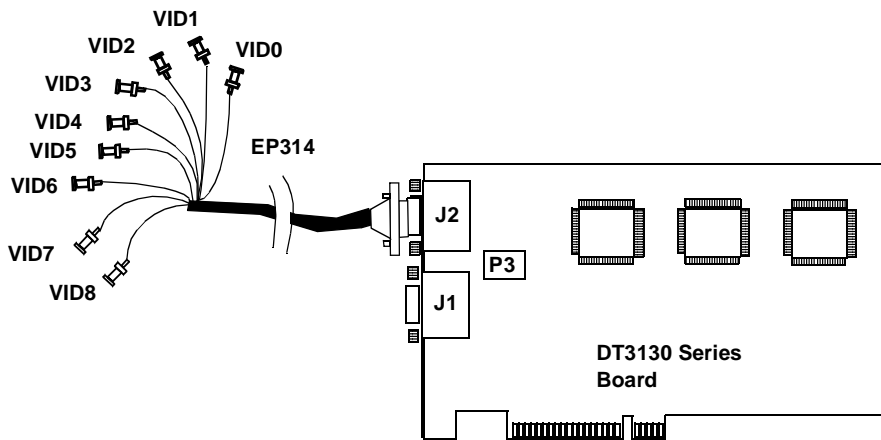

Figure 4: Connecting the EP314 Cable to Connector J2
1. After making sure power to the computer is off, push the 15-pin connector of one EP314 cable into the J2 socket at the rear of the DT3130 Series, as shown in Figure 4, then tighten the screws on the connector.